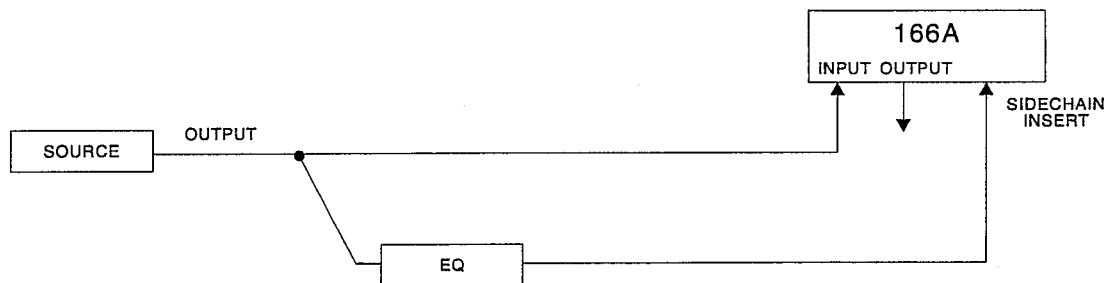

Figure 3: Frequency-Weighted Compression
For example, to set up your 166A for frequency-sensitive gating or frequency-weighted compression, you must feed an equalizer's input with the same signal fed to the 166A's INPUT, and then connect the equalizer's output to the 166A's SIDECHAIN INSERT jack (Figure 3). Providing the signal to both the 166A's INPUT and the equalizer can be accomplished in several different ways: (1) use an insert cable plugged into the SIDECHAIN INSERT jack. The SEND goes to the input of the EQ. The RETURN goes to the output of the EQ; (2) use a Y-cable to feed the audio source to both the 166A INPUT and the equalizer input; (3) feed the signal to one of the 166A's INPUT jacks and use the compressor channel's parallel INPUT jack to drive the equalizer (e.g., if the audio source feeds into Channel 1's 1/4" INPUT jack, use Channel 1's XLR INPUT jack to feed the signal to the equalizer); (4) if the audio source can internally split its output signal (e.g., some synthesizers can send the same signal from two outputs), plug a cable into each output and feed one cable to the 166A INPUT and the other to the equalizer.